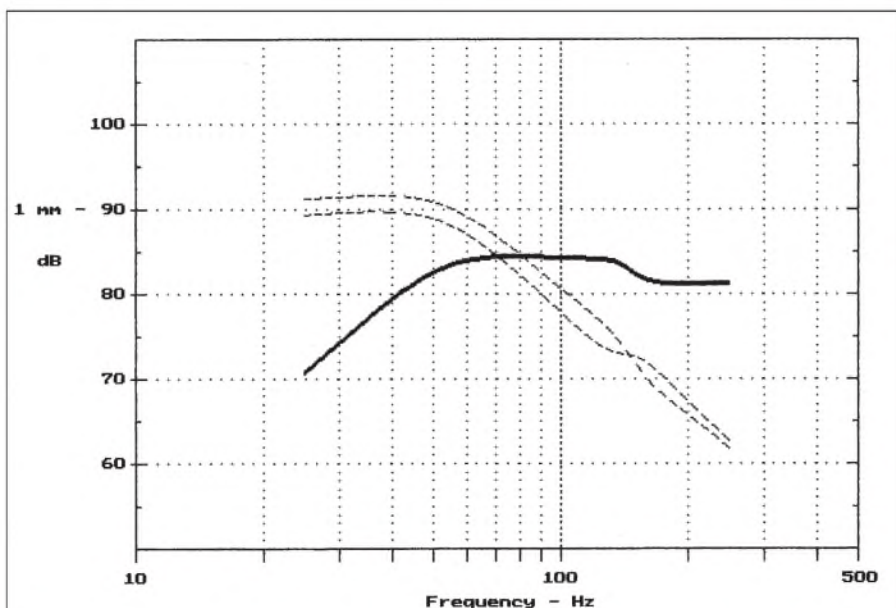

FIGURE 1: Non-vented isobaric woofer system—1W response (bold) and cone excursion.
Sure enough, my computer analysis predicts that frequency response (bold curve in Fig. 1) includes a 3dB shelf at about 150Hz. For use as a subwoofer, this may actually be beneficial. Also, the low-frequency cutoff is a little lower than expected, and this is definitely beneficial. However, these characteristics are accompanied by a 2dB difference between the two cone excursions below 150Hz. At very low frequencies, maximum output will be limited by the cone travel of the front speaker.
3. In Fig. 1 there are grounds shown for each channel on the primary and secondary sides of the LL1527XL transformer. Do these simply connect together at the negative side of the RCA connector or are they taken to other locations?